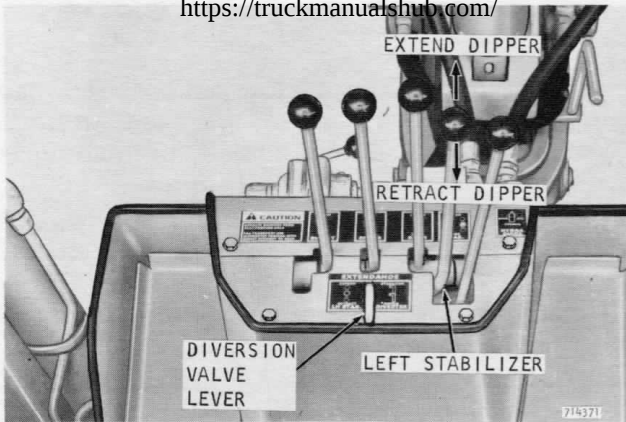

Figure 34 - Extendahoe Controls
2. Push the diversion valve lever down, Figure 34.